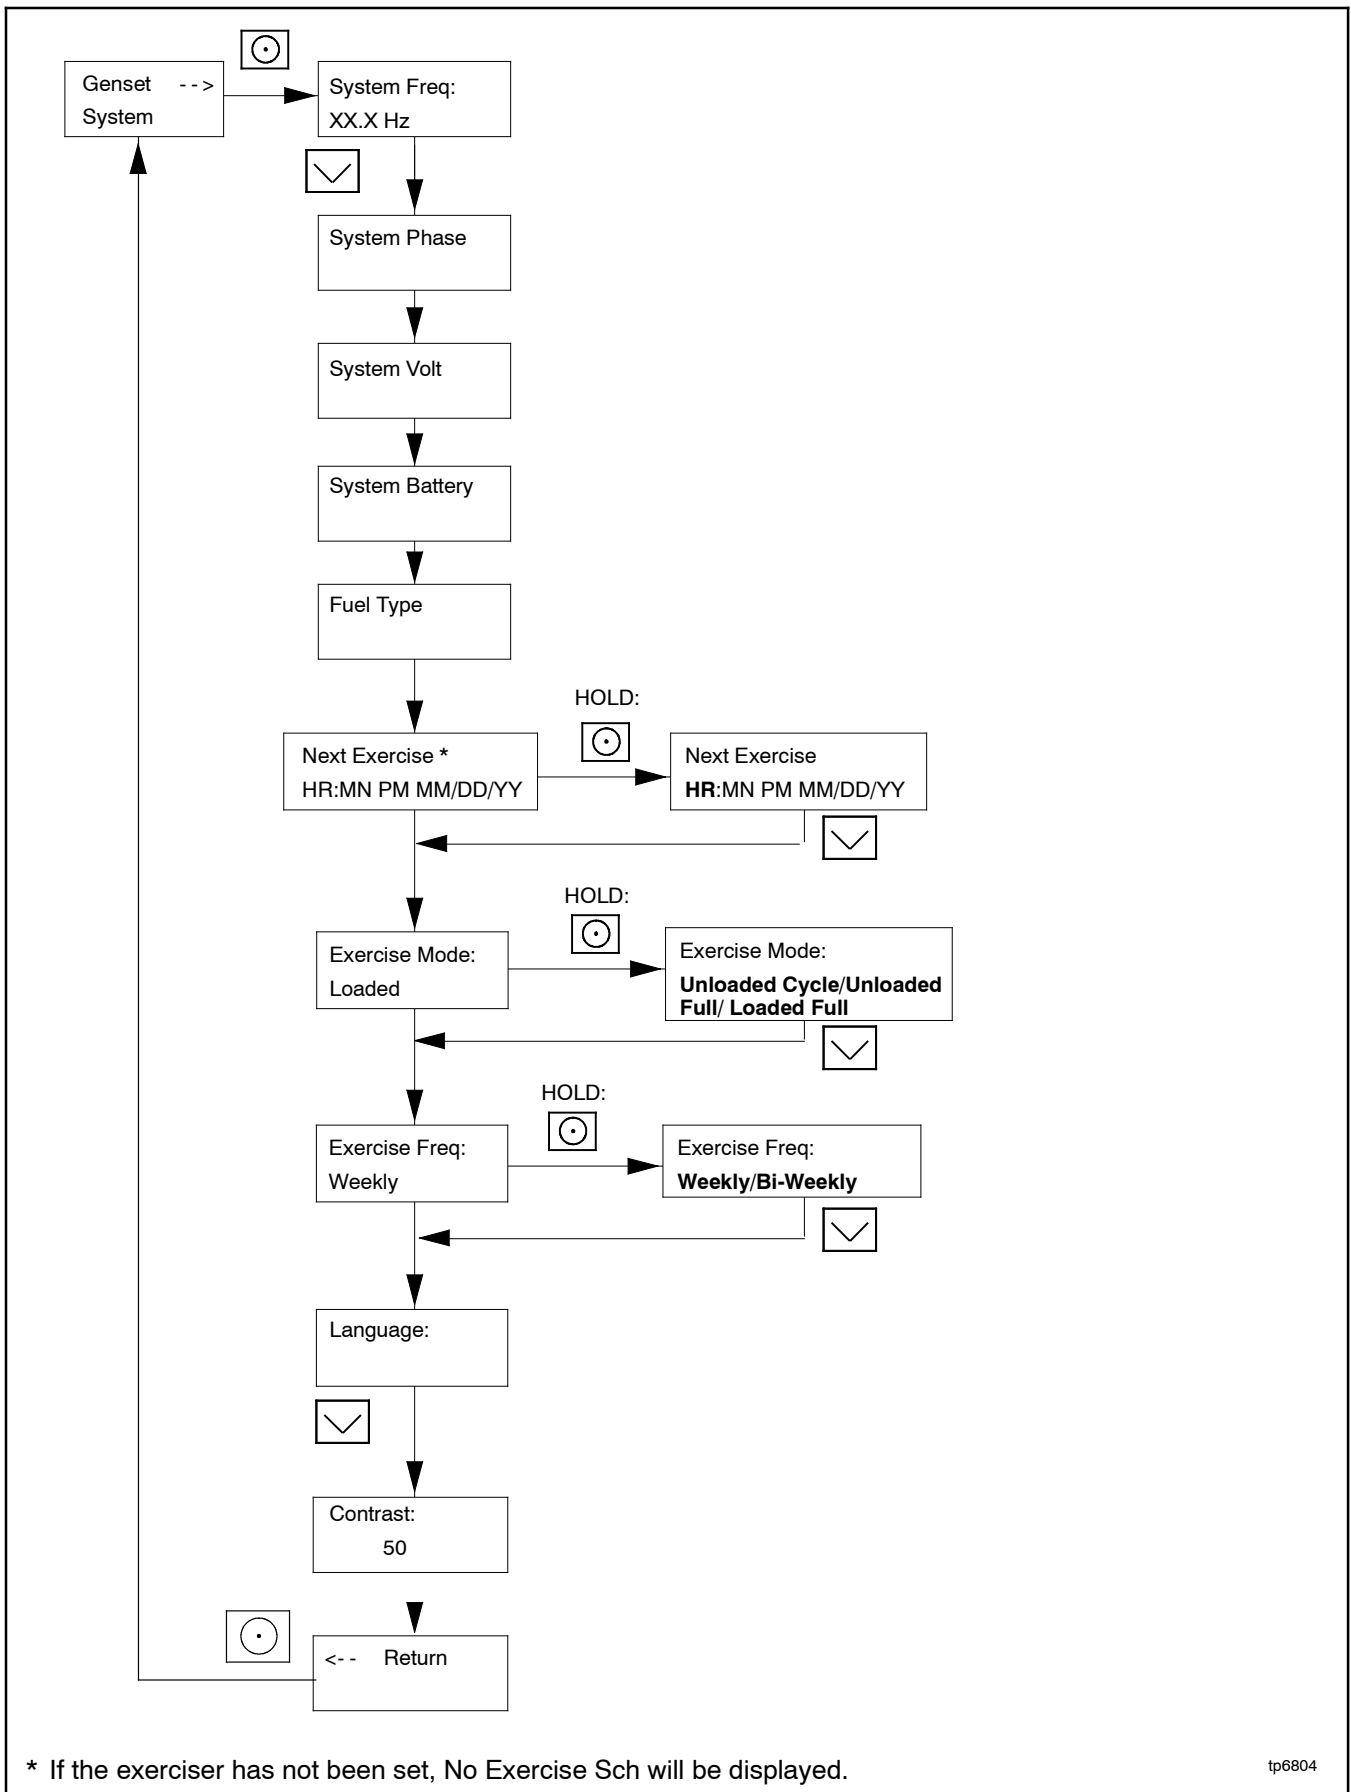

Figure 3-8 Procedure to Set the Exerciser on the RDC2 Controller
Follow the procedure below and see the flowchart in Figure 3-8 to set the exercise time and date, mode, and frequency.
4. Press the Select button to enter the Genset system menu. See Figure 3-8.
12. If the generator set is connected to a Kohler® Model RXT transfer switch, the exercise can be changed to a loaded exercise. Set the Exercise Mode to Unloaded Cycle, Unloaded Full, or Loaded Full (RXT ATS required) as shown in Figure 3-8. Unloaded Cycle is recommended. See Sections 2.4.2 through 2.4.4 for information about the exercise modes.